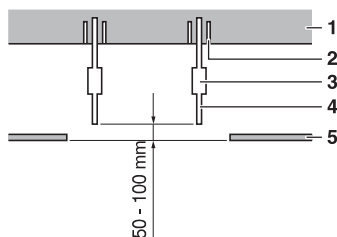

Fig. 6
- (2) Make the ceiling opening needed for installation where applicable. (For existing ceilings.)
- (3) Install the suspension bolts. (Use either a M8-M10 size bolt.) Use anchors for existing ceilings, and a sunken insert, sunken anchors or other field supplied parts for new ceilings to reinforce the ceiling in order to bear the weight of the unit. Adjust clearance from the ceiling before proceeding further. Installation example (See Fig. 6)